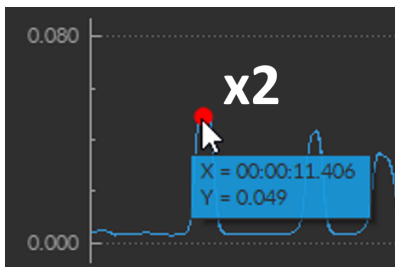

Figure 11.15: Instantaneous Value
- **Instantaneous point** - *Double clicking* (Fig. 11.15) on any element of the trace within a graph adds a red dot over that section. Mousing over the dot with the cursor displays the X- and Y-coordinates of the data point. These data points are strictly a visualization tool and their coordinates will not be saved with the rest of the data. To remove a created dot double-click on it a second time.